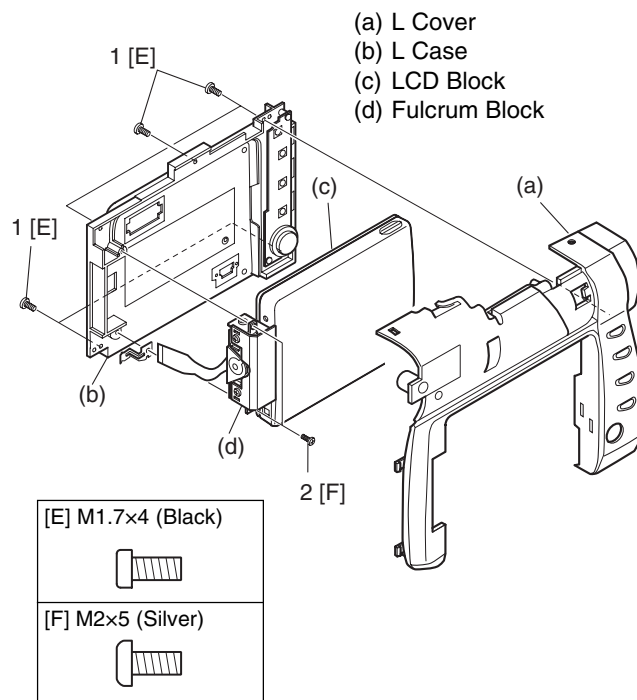

Fig. 5-3-6 L Cover, L Case and LCD Block
(5) L Cover, L Case and LCD Block (Fig. 5-3-6)